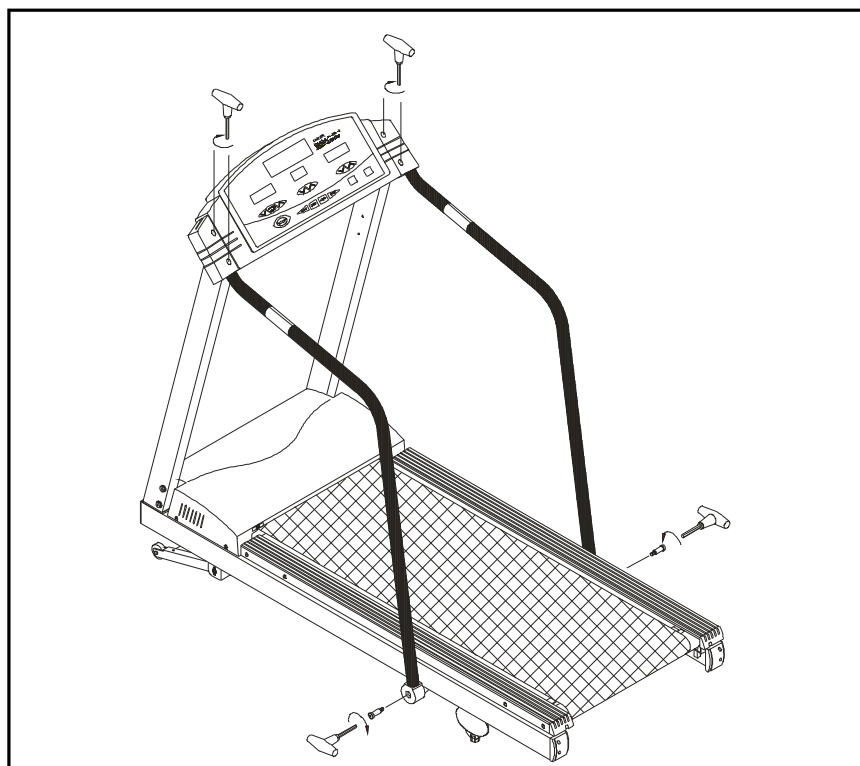

Fig.4
7. If, the unit with long handrail, attach the bottom of the handrails with handrail clamps to the treadmill frame secure with one bolt on each side (see Fig. 4). Then, tighten the upper handrails bolts securely.